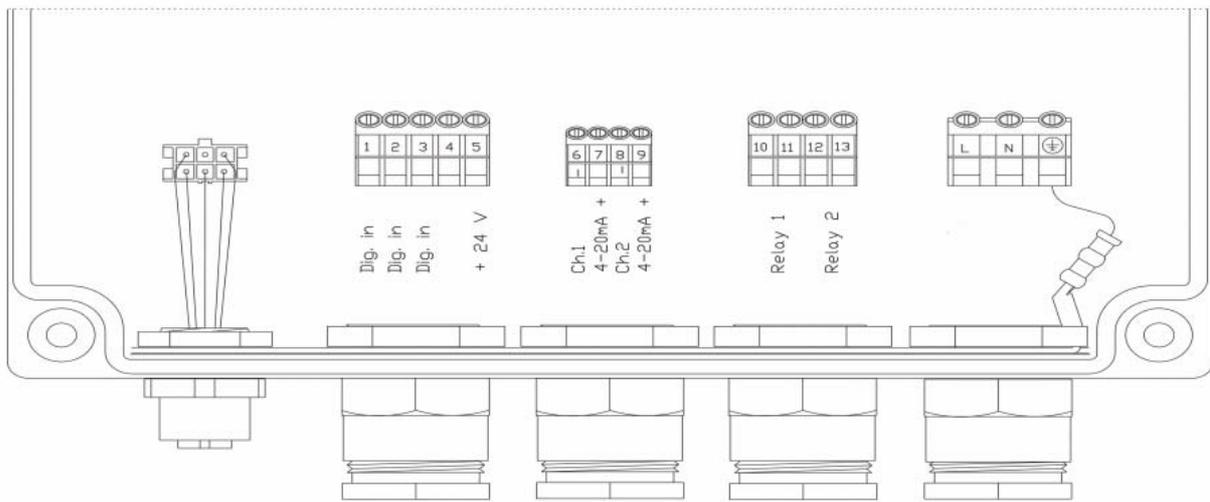

Figure 2 1 2 3 4 5
2. Connect the alarm to relay 1 or 2 (see **Figure 2**)